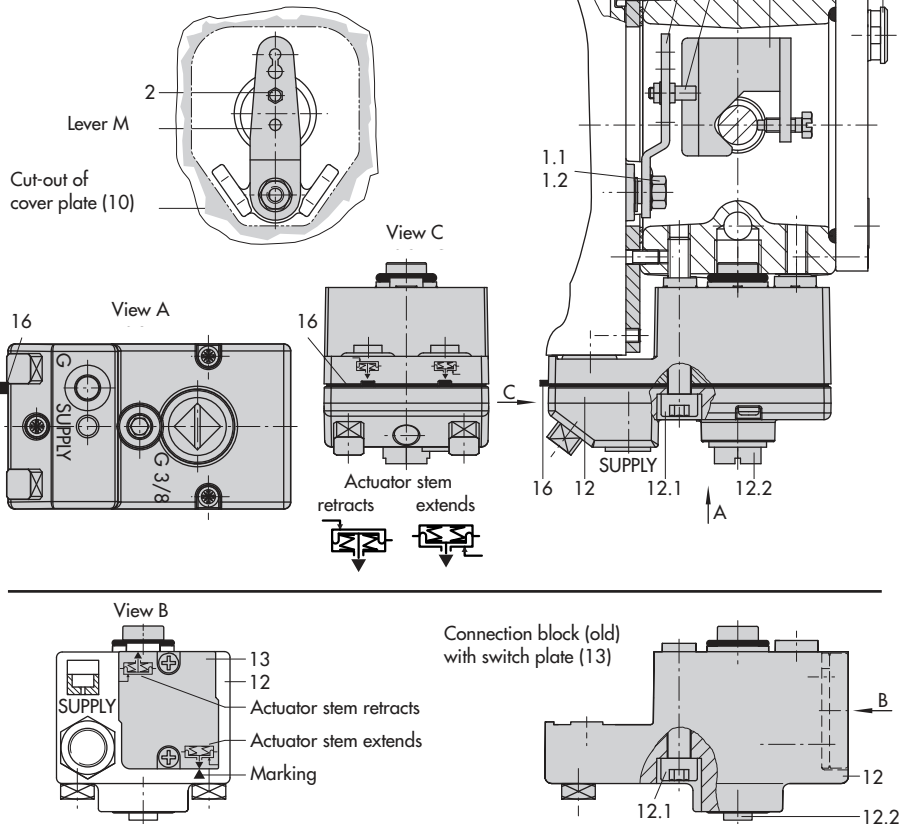

Fig. 5 · Direct attachment – Signal pressure connection for Type 3277 Actuator with 175 to 750 cm²
Mount the positioner on the yoke as shown in Fig. 5. The signal pressure is routed to the actuator over the connection block (12), for actuators with fail-safe action "Actuator stem extends" internally through a bore in the valve yoke and for "Actuator stem retracts" through external piping.
1. Place follower clamp (3) on the actuator stem, align and screw tight so that the mounting screw is located in the groove of the actuator stem.
2. Mount cover plate (10) with narrow side of the cut-out opening (Fig. 5, on the left) pointing towards the signal pressure connection. Make sure that the bonded gasket (14) points towards the actuator yoke.
3. For actuators with 355, 700 and 750 cm², remove the follower pin (2) at lever **M** (1) on the back of the positioner from pin position **35**, reposition it in the bore for pin position **50** and screw tight. For actuators 175, 240 and 350 cm² with 15 mm travel, the follower pin (2) remains in pin position **35**.
4. Insert formed seal (15) in the groove of the positioner casing.
5. Place positioner on the cover plate in such a manner that the follower pin (2) rests on the top of the follower clamp
6. Make sure that the tip of the gasket (16) projecting from the side of the connection block (12) is positioned above the actuator symbol that corresponds with the actuator with fail-safe action "Actuator stem extends" or "Actuator stem retracts." If necessary, remove the three fixing screws and the cover. Then reposition the gasket (16) turned by 180°. The previous version of the connection block (Fig. 5, bottom) requires the switch plate (13) to be turned such that the corresponding actuator symbol points to the marking.
7. Place the connection block (12) with the associated seal rings against the positioner and the actuator yoke. Screw it tight using the fixing screw (12.1). For actuators with fail-safe action "Actuator stem retracts", additionally remove the stopper (12.2) and fit on the external signal pressure piping.
8. Mount cover (11) on the other side. Make sure that the vent plug points downwards when the control valve is installed to allow any condensed water that collects to drain off.